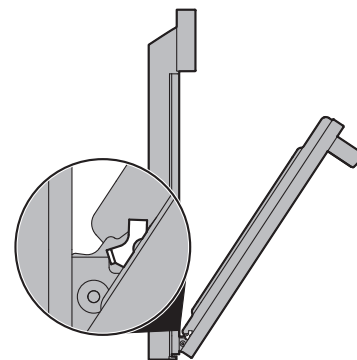

Figure 22: Removal position
3. Grasp the door by the sides, and close the door until the door frame makes contact with the unlocked hinges (Figure 22).
2. Hold the oven door at the same angle as the removal position (Figure 22). Carefully insert the hinge levers into the oven frame until you feel the hinge levers are seated into the hinge notches. The hinge arms must be fully seated into the hinge notches before the oven door can be fully opened.